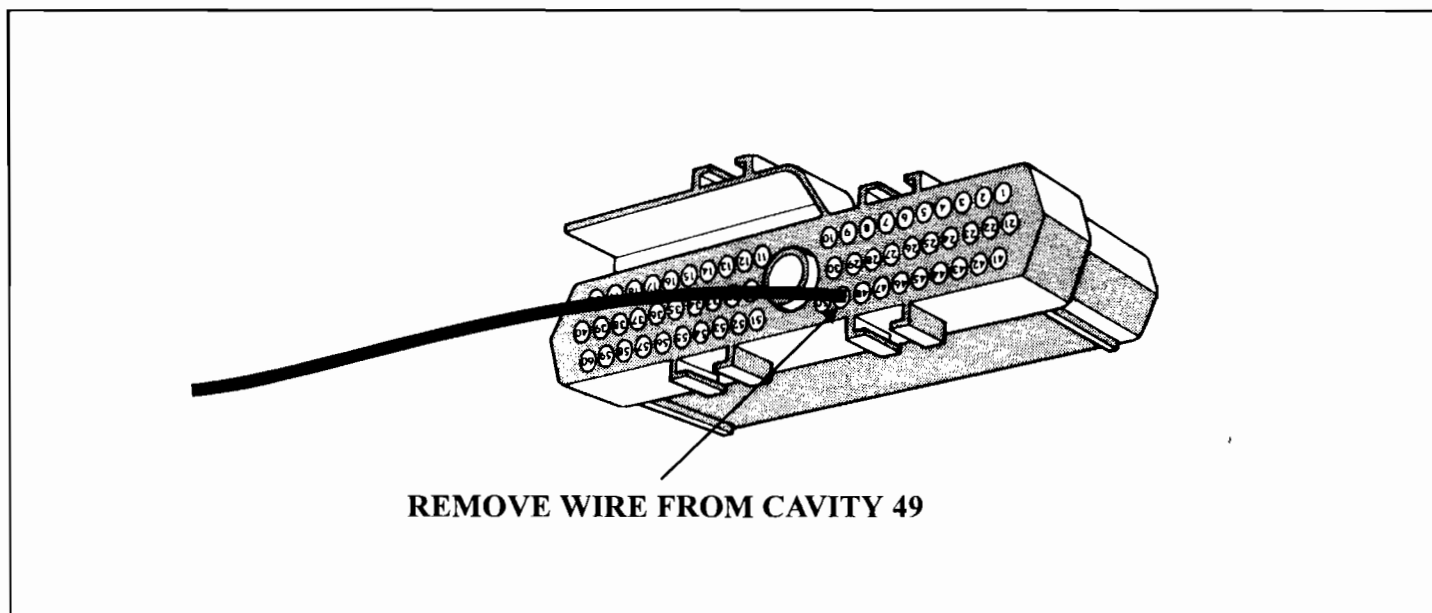

Figure 1
When flashing to or installing these TCM's, it is necessary to ensure no wire is connected at CAVITY 49 of the TCM wiring harness connector (See Figure 1). If the wire is left connected, and the vehicle is driven at speeds fast enough for the transmission to be in 4th gear/Overdrive (OD), when the brake pedal is pushed, the transmission will shift into 3rd gear or if the transmission was already in 3rd gear it will shift into OD. If the brake pedal is pushed again, the transmission will have OD enable/disable (whether or not an actual shift takes place depends on vehicle speed) and will change between enabled/disabled OD each time the brake pedal is pushed.